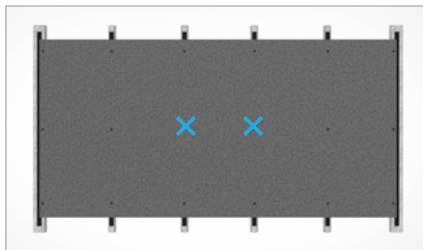

FIGURE 10.
- If the panel is installed horizontally or runs across two intermediate top hats, the board must have two fixed points as close to the centre of the panel as possible and must be aligned horizontally. (see Figure 10)